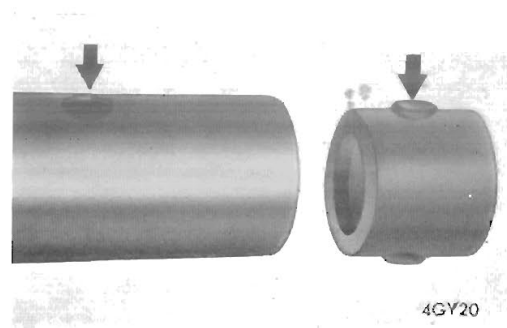

Fig. 26. Protrusions on rubber bushes and corresponding holes in steering column
- o Remove the end cap (40) and depress the protrusions on the rubber bushes (43) and (55) as shown on Fig. 26. Using a length of bar, eject the bushes from the outer column (44). Remove the metal inserts (42) and nylon bushes (41) from the rubber bushes.